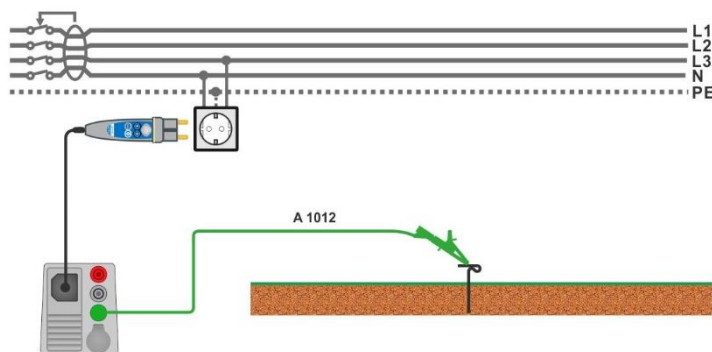

Figure 7.48: Connection for  $U_c(P)$  measurement
- ▶ Connect test lead P/S to external earthed point (optional), see **Figure 7.48**.